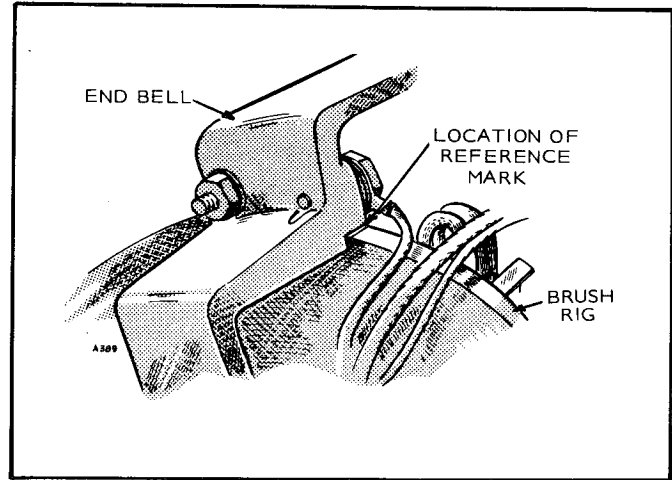

FIGURE 3-11. BRUSH RIG ALIGNMENT
Whenever a new brush rig or armature is installed, the brush rig must be rotated to the point of highest voltage (point of least arcing of the brushes) regardless of where the witness mark falls. After the brushes are seated and the generator is hot, readjust the brush rig. This is commonly known as the neutral brush position (see Figure 3-11).
8. Rotate the rig in one direction until the voltmeter reading starts to decrease. Mark this point Figure 3-11.